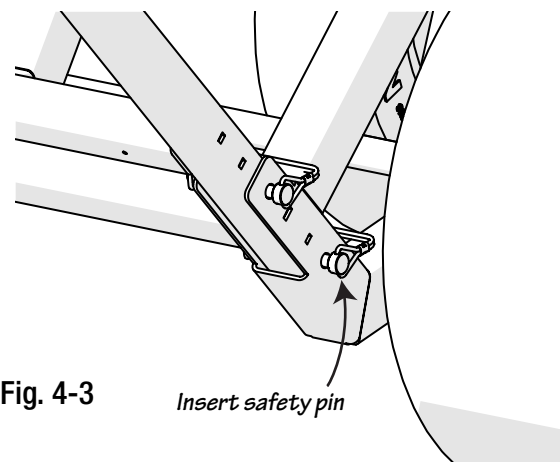

Fig. 4-3
5. Secure the pin by pulling the clip over the pin end. Locking the fork assembly in place. See Fig. 4-3.